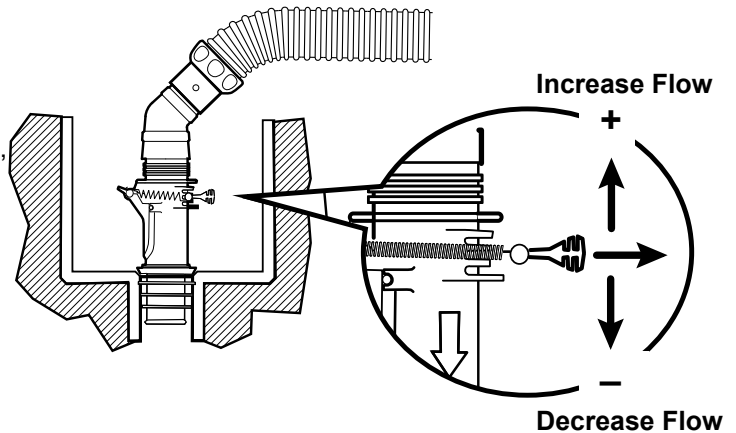

Figure 9
2. Use the FlowKeeper™ valve setting up or down, or adjust the valves at the equipment pad to increase or decrease flow to the cleaner as necessary (Figure 9).